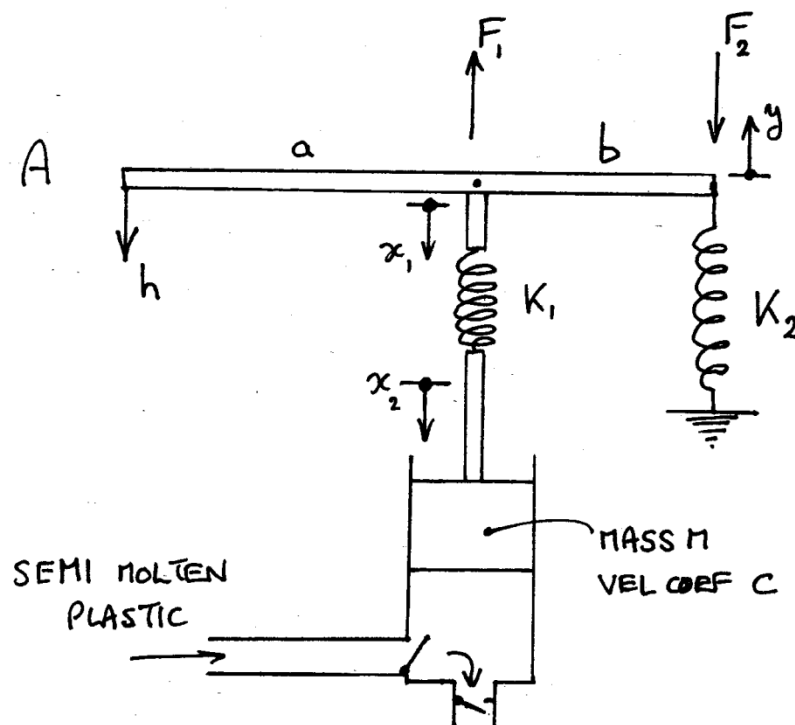

Figure 7.
7. A plastic mould delivery mechanism consists of the components as shown in figure 7. Movement of the end of the lever A causes the piston M to fall and displace a measured quantity of semi molten plastic into the mould below. The piston resists movement both by virtue of movement in the guide which is simulated by K_1 and by virtue of speed of motion with a coefficient C . The lever does not deviate significantly from its horizontal rest position.